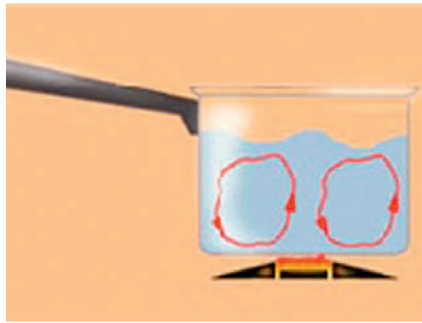

Figure 2.139 Convection
- Convection occurs in the water jacket, creating flows of internal coolant from the cylinder block to the cylinder head (Fig. 2.139).